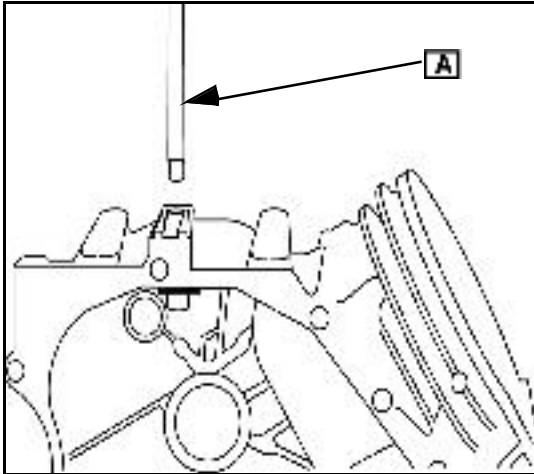

Fig. 25
1. Remove bushing with a .375 in. (9.5 mm) rod ([A] Fig. 25) by driving downward into the cylinder housing.